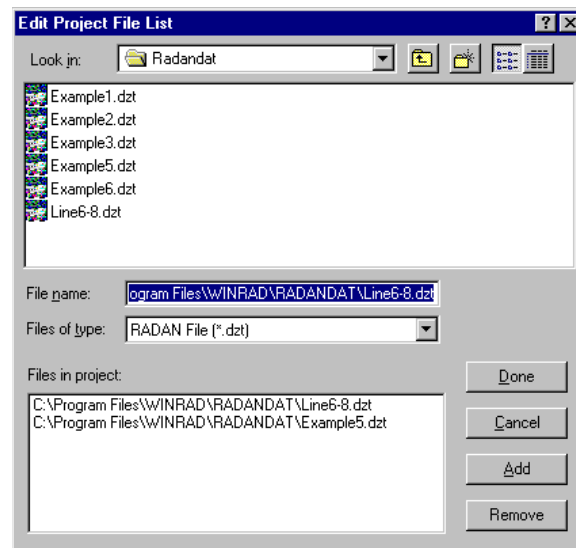

Figure 122: Edit Project File List dialog box.
- 5** In the Edit Project File List dialog box that opens (Figure 122), select the files you wish to include in your project by moving the mouse cursor and clicking onto the desired file.